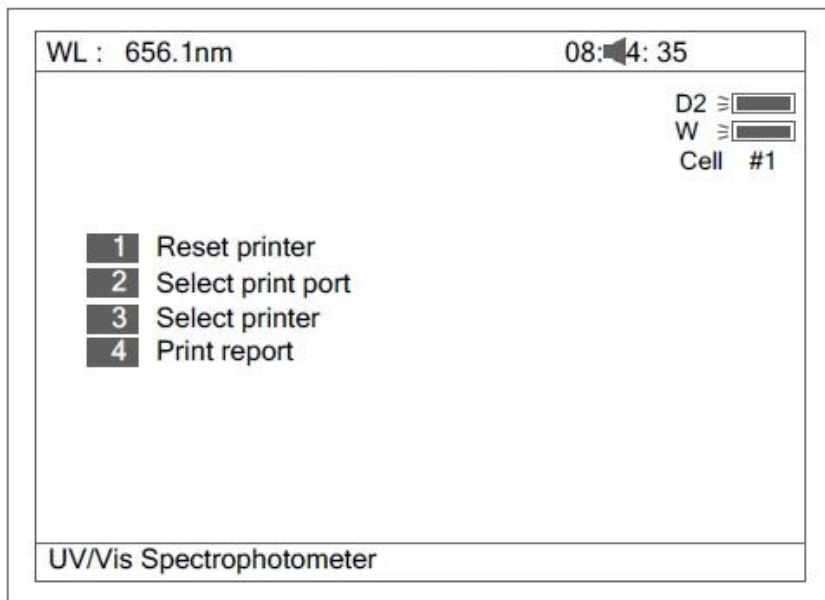
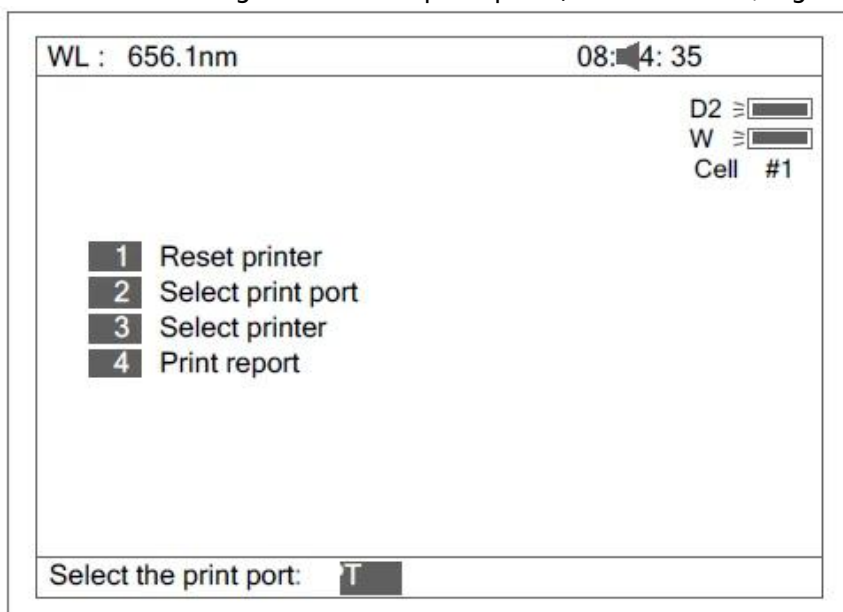
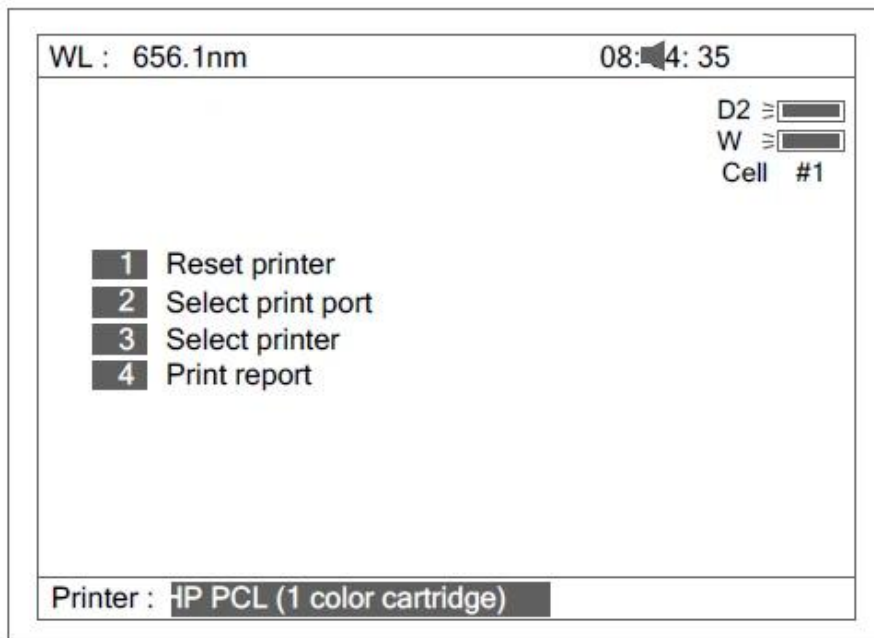
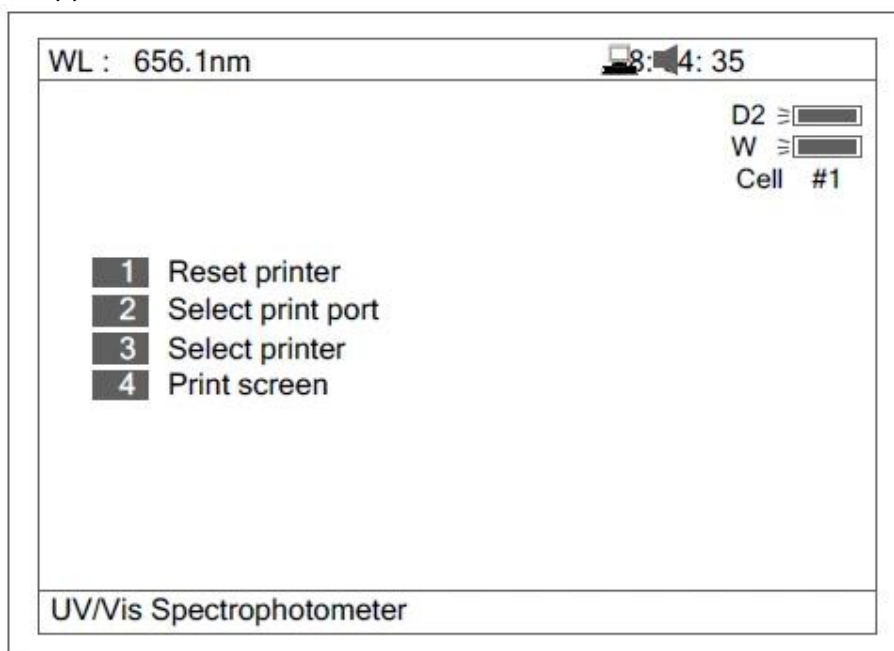

Figure 75
Figure 76
Figure 77
Figure 78
Press **【2】** to set printer (Fig 75). **【ESC/STOP】** to exit.
1. Press **【1】** in Fig 75 to Reset Printer.
2. Press **【2】** in Fig 75 to select print port (LPT or Comm., Fig 76).
3. Press **【3】** in Fig 75 to select printer (HP PCL (1 colour cartridge), PCL (black mode), Epson ESC/P or Epson/P2 or above, Fig77).
4. Press **【4】** in Fig 75 to select print mode. If you select "Print screen" mode, a little icon will be displayed on the top line of the screen (Fig 78), if you select "Print report" mode, the little icon will disappear.